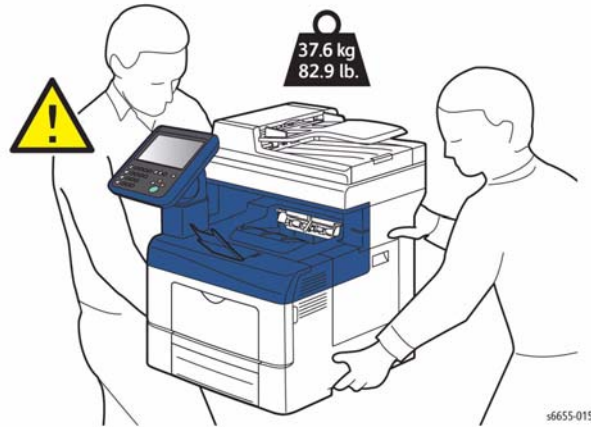

Figure 3 Printer Lifting Technique
7. Lift and carry the printer as shown in Figure 3.